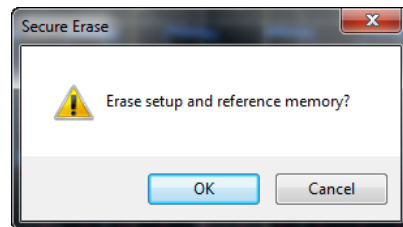

Figure 2-147 Secure Erase dialog
- 2 The Secure Erase confirmation dialog is displayed as shown in Figure 2-147. Select **OK** to perform the secure erase operation.